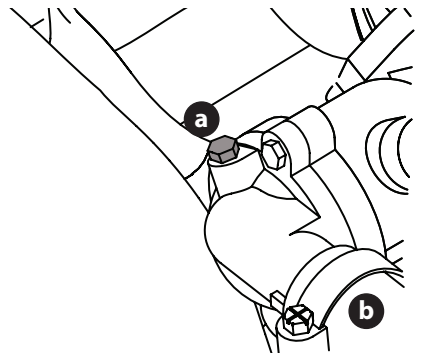

Figure 35
4. Remove the second bleeder screw (a) where the radiator hose (b) connects to the engine and let the engine run until a steady stream of fluid comes out of the bleeder screw (a) hole indicating there are no more air pockets in the coolant system. Replace the bleeder screw (a) (Figure 35).